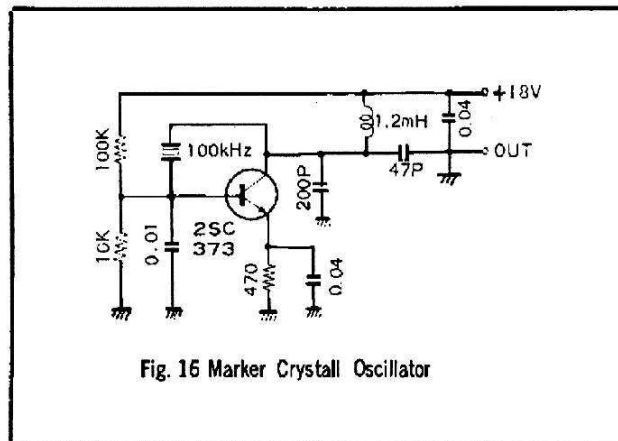

Fig. 16 Marker Crystall Oscillator
- Specified oscillation circuit: See Fig. 16.